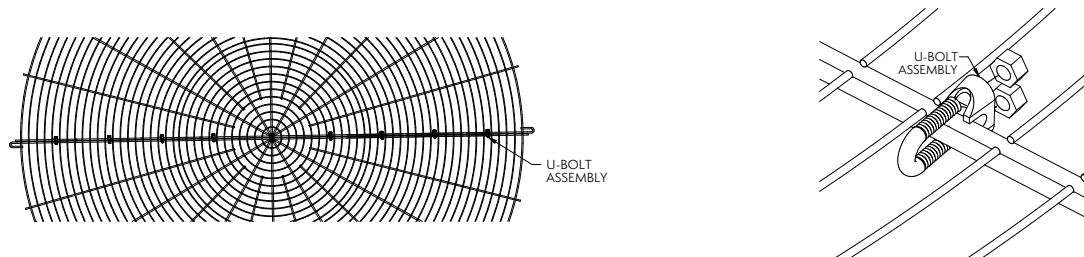

Figure 15 —U-Bolt Assembly Spacing & Arrangement
3. Join the two screen halves with "U" bolts, as shown in **Figure 15**.